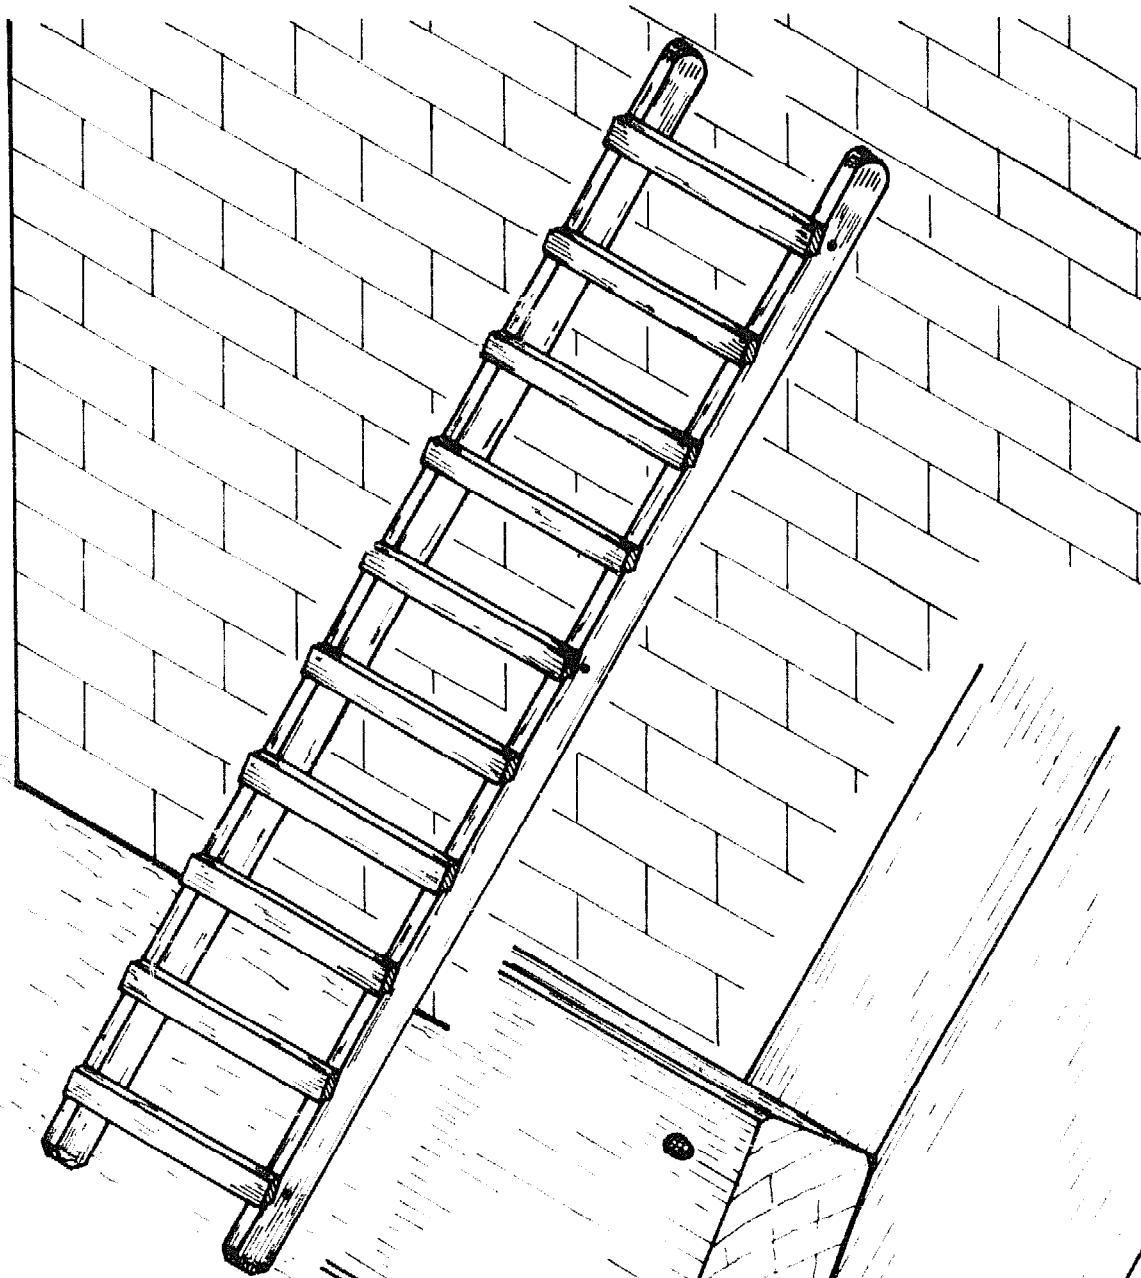

Fig. 1
- BLOCK SCAFFOLD: This is the lowest and simplest working scaffold. It is used to raise the worker a bit higher to make it easier to build the wall up to the actual scaffold height of 1,5 m. Set the sandcrete blocks on solid, level ground and lay one or two boards across them (Fig. 1).